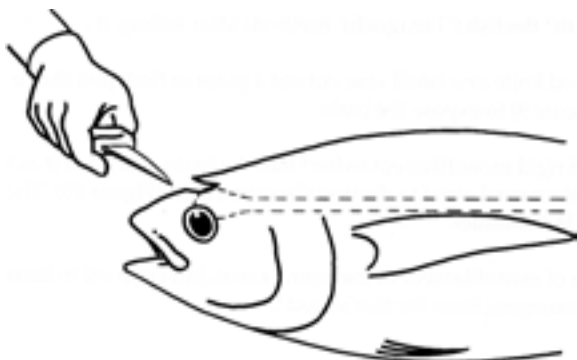

Fig. 12 Make a cut over the soft spot
- Use a very sharp knife to make a 3-4cm cut over the soft spot. The incision must be deep enough to expose the brain (Fig. 12). The incision or hole on the head should not be obvious so that the fish retains a better appearance.